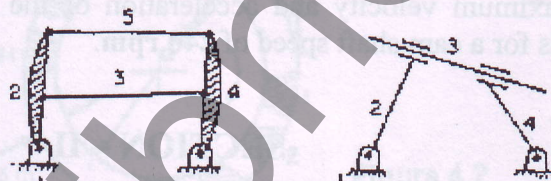

Figure 1.1
- [C] Determine following things of mechanism shown in figure 1.1 [6]
- (1) No. of binary links (2) No. of Ternary Links (3) No. of Quaternary links (4) Degree of Freedom